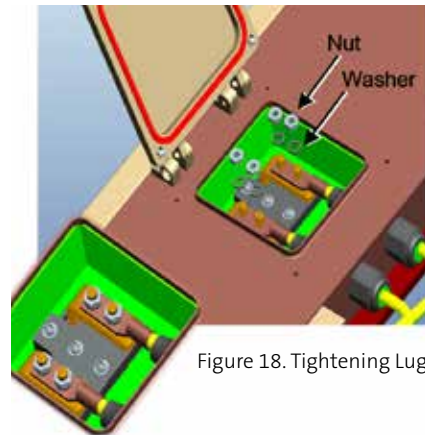

Figure 18. Tightening Lug to Terminal
**Step 5:** Tighten lug to terminal with nut and washer (Figure 18).